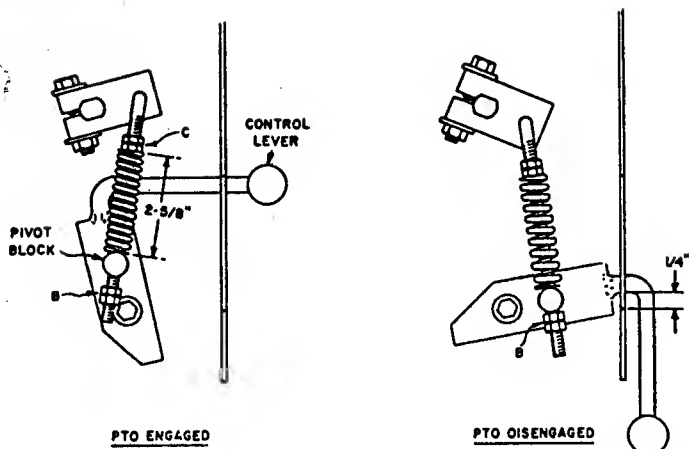
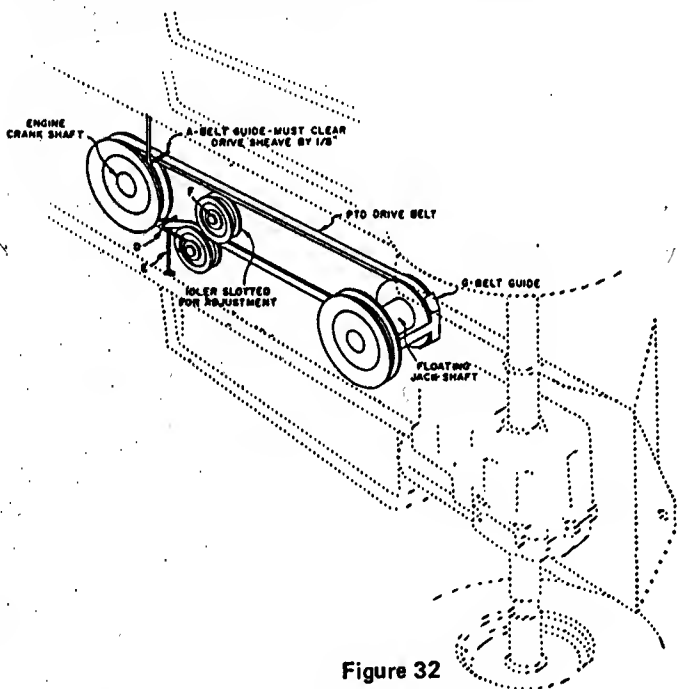

Figure 31
Figure 32
The PTO drive belt should be adjusted before the rear nuts B, Figure 31, contact the pivot block when the implement power clutch is engaged or if the belt begins to slip.
1. Engage implement power clutch and tighten nuts C, Figure 31, until the spring length is 2-5/8".
2. Position belt guides D and E, Figure 32, across from one another when the clutch is disengaged in such a manner that the belt is retained in the disengaged position. In addition, guide D must clear the engine sheave by 1/8" as the clutch is moved from the disengaged to the engaged position. Move guide D rearward if necessary to obtain this clearance.
3. With clutch disengaged, tighten nuts B, Figure 31, to obtain 1/4" clearance between the implement power clutch lever and rear of slot in the tractor frame.
If after adjustment, the rear nuts B, Figure 31, contact the pivot block when the clutch is engaged, loosen bolt F, Figure 32, and move the idler closer to the belt to provide additional adjustment. Repeat the complete adjustment sequence if it becomes necessary to move the idler.
### PTO DRIVE BELT - (Figure 32)